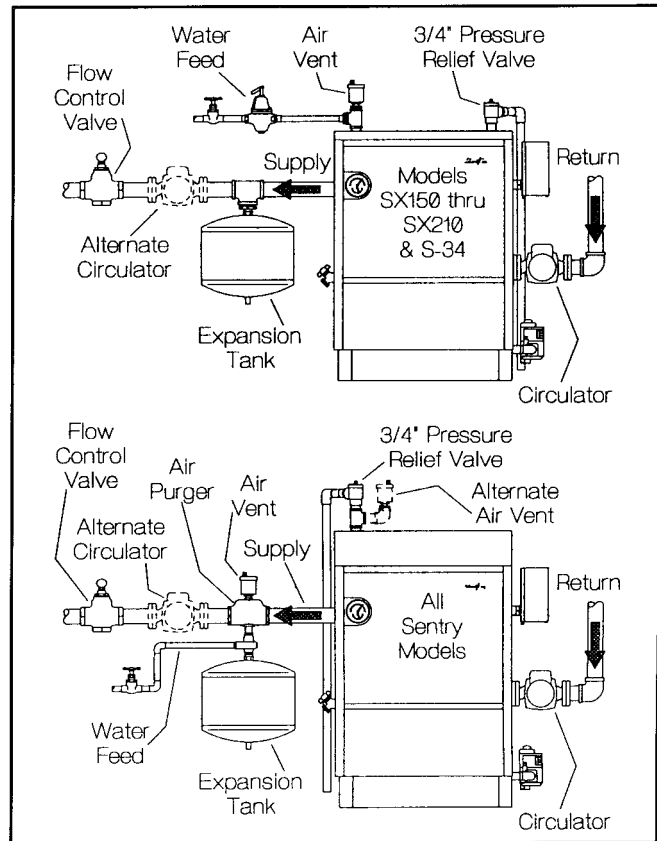

Figure 10. Piping Arrangement
- A. Packaged water boilers are equipped with a water circulating pump, mounted to return the water into the boiler. For some installations, the pump should be on the supply main. See figure 10.
- A. DIAPHRAGM-TYPE COMPRESSION TANKS are used to control system pressure in an AIR ELIMINATING SYSTEM: an automatic air vent is used to REMOVE air from the system water. See figure 10. If system pressure needs further control, add an additional tank or install a larger capacity tank. Locate the tank near the boiler, as illustrated. An automatic air vent should be installed in the top of the boiler or air purger. See figure 10.